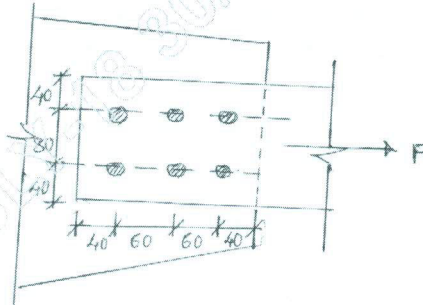

Fig. Q5 (b)
- b. Determine the strength of the plate 160mm × 10mm thick, connected with bolts subjected to a force as shown in Fig. Q5 (b). Use M18 dia bolts, take $f_y = 250 \text{ N/mm}^2$, $f_u = 410 \text{ N/mm}^2$. (14 Marks)